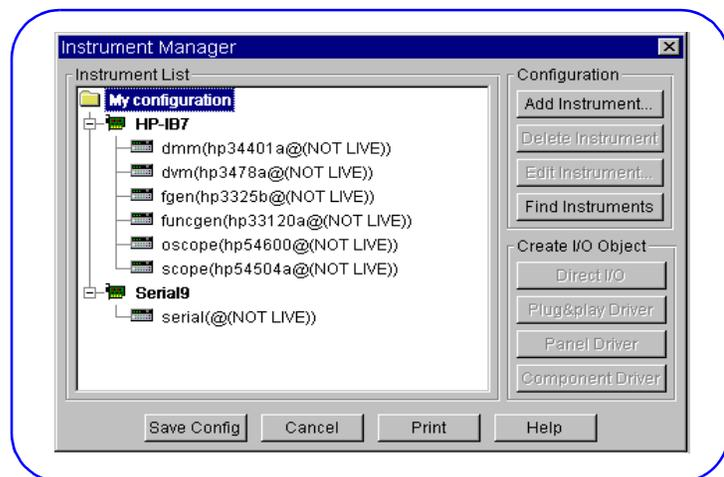

Figure 30. HP VEE Instrument Manager - Default Screen
- 1 To run this example, turn PC and mainframe power ON and open HP VEE. Then, select the *I/O/Instrument Manager..* menu item to display the default Instrument Manager screen (see Figure 30).